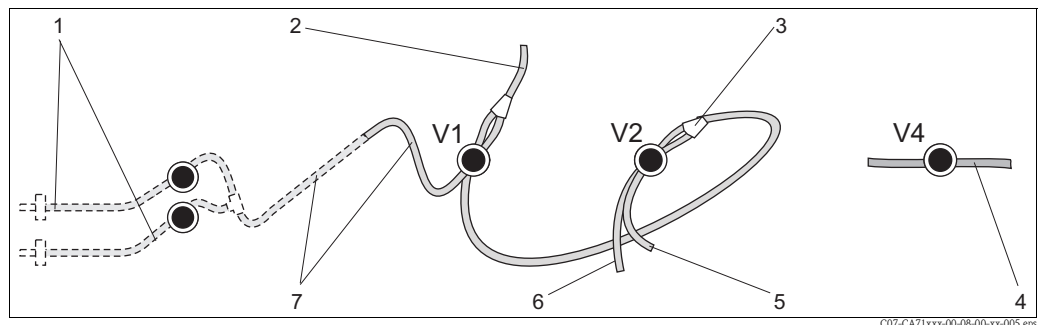

Fig. 10: Valves and valve hoses
6. Insert the valve hoses according to Fig. 10. This prevents the hoses becoming stuck or being pressed against the same position for a long period of time.